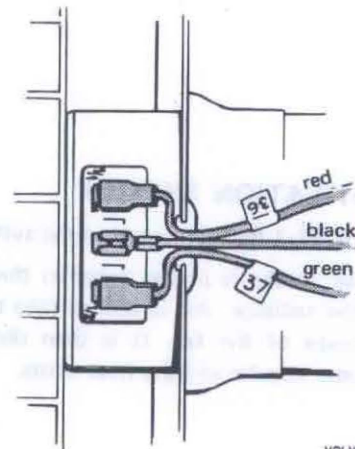

Fig. 85-4. Electrical connections
5. Fit the rubber ring and cover on the motor. Connect up the cable harness according to Fig. 85-4. Tighten the clamp when the adjustment has been made to the measurement 86 mm (3.5"), see Fig. 85-5.